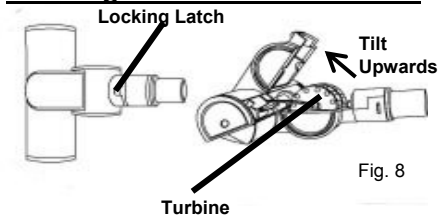

Fig. 8
2. Slide locking latch forward then tilt the top housing of the brush upwards. The top housing is hinged and will tilt up approximately 45° only. (Fig. 8)